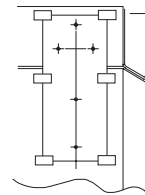

**Figure 2-1**
- 2.1. Mark center line locations  $\mathcal{C}$  as shown (Figure 2-1).